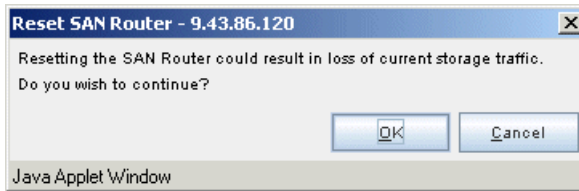

Figure 17-29 Router reset warning
2. The warning shown in Figure 17-29 on page 477 appears to remind you that resetting the router will interrupt traffic. Click **OK** to continue.